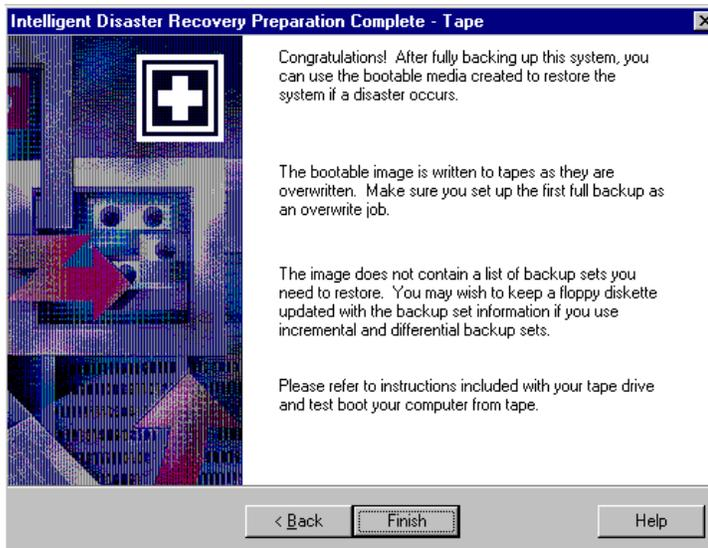

Figure 6: Disaster Recovery Preparation Complete dialog
- Figure 6 shows the Intelligent Disaster Recovery Preparation Complete screen. This is the last wizard screen in the disaster recovery preparation process. Click Finish to end the disaster recovery preparation process.